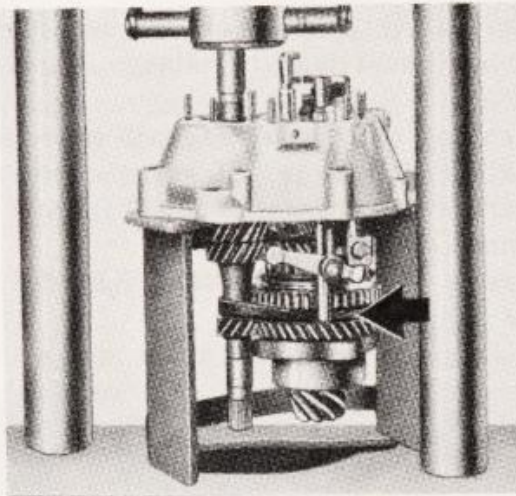

Fig. M-18. Note use of rubber band in disassembly and reassembly.
- 5 - Place rubber band around operating sleeve of first and second gear, and main drive shaft, Fig. M-18.
Reassembly procedure is reverse of disassembly. When reinstalling gear assemblies, rubber band should again be used, Fig. M-18. Selector fork for 3rd and 4th gears should be positioned in operating sleeve beforehand. Take care that selector fork does not become jammed on selector shaft during installation.